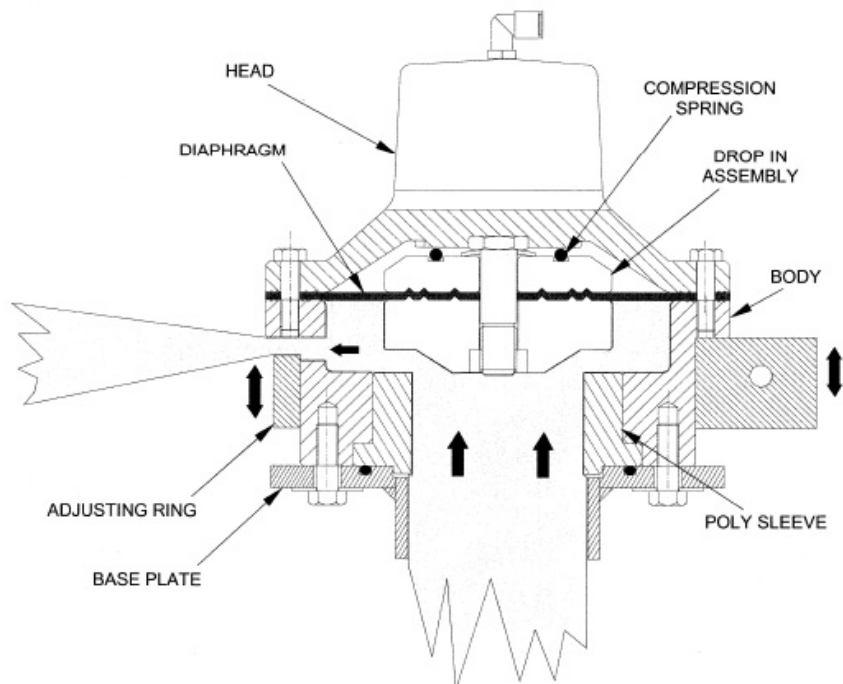

Figure 6 Spray Head
24. Operation of the spray head is via a combination of water and air pressure and is controlled by a two position toggle valve on the dash. With the toggle valve in the ON position air is exhausted from the spray head allowing water under pump pressure to raise the drop-in assembly against spring pressure and flow through the opening in the body as shown in Figure 6. When the toggle valve is switched to the OFF position, air flows to the air chamber of the spray head forcing the drop-in assembly down onto the poly sleeve and stopping the water flow. When the truck is shut down, the drop-in assembly is held closed by the compression spring in the head.